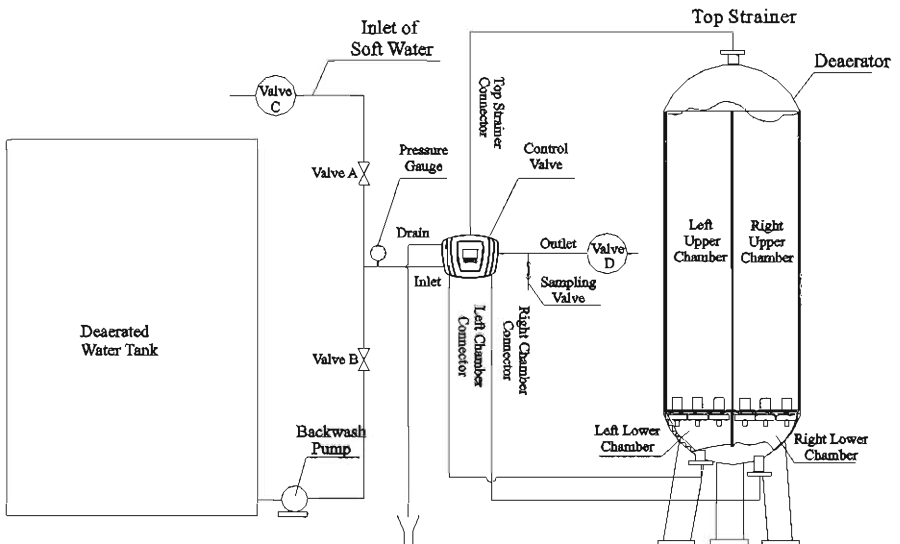

Figure 1-1
The pipeline installation is like Figure 1-1 shows.
a. As Figure 1-1 shows, install a pressure gauge in water inlet.
As Figure 1-1 shows, install a sampling valve and manual valve D in outlet.
As Figure 1-1 shows, install valves' relative connectors with left chamber, right chamber and top strainer of deaerator.